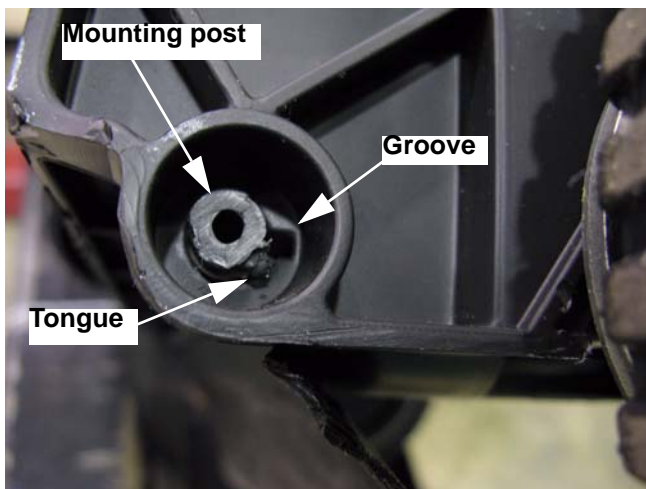

Figure 4.2
4. Align the tongues on the mounting posts at each end of the trail shield with the grooves in the trail shield mounting recess on the rear baffle. See Figure 4.2.